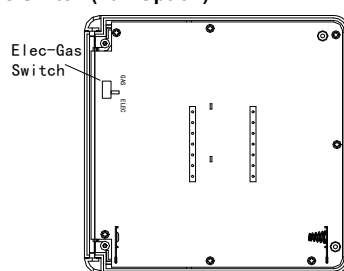

Figure 1. Electric/Gas Switch (Fan Option)
This thermostat is configured from the factory to operate a heat/ cool, fossil fuel (gas, oil, etc.), forced air system. It is configured correctly for any system that DOES NOT require the thermostat to energize the fan on a call for heat. If you system is an electric heat or heat-pump system that requires the thermostat to turn on the fan on a call for heat, locate the ELEC/GAS switch on the back of the thermostat (see fig. 1) and switch it to the ELEC position. This will allow the thermostat to energize the fan immediately on a call for heat. If you are unsure if the heating/ cooling system requires the thermostat to control the fan, contact a qualified heating and air conditioning service person. When the thermostat is configured for Heat Pump, the thermostat will always power the circulatory fan on a call for heat in the HEAT mode. The ELEC/GAS switch must be set to match the type of Auxiliary heat your system uses for proper operation in the EMER mode.
- Fasten base loosely to wall, as shown in fig. 1, using two mounting screws. Place a level against bottom of base, adjust until level, and then tighten screws. (Leveling is for appearance only and will not affect thermostat operation.) If you are using existing mounting holes, or if holes drilled are too large and do not allow you to tighten base snugly, use plastic screw anchors to secure sub base.